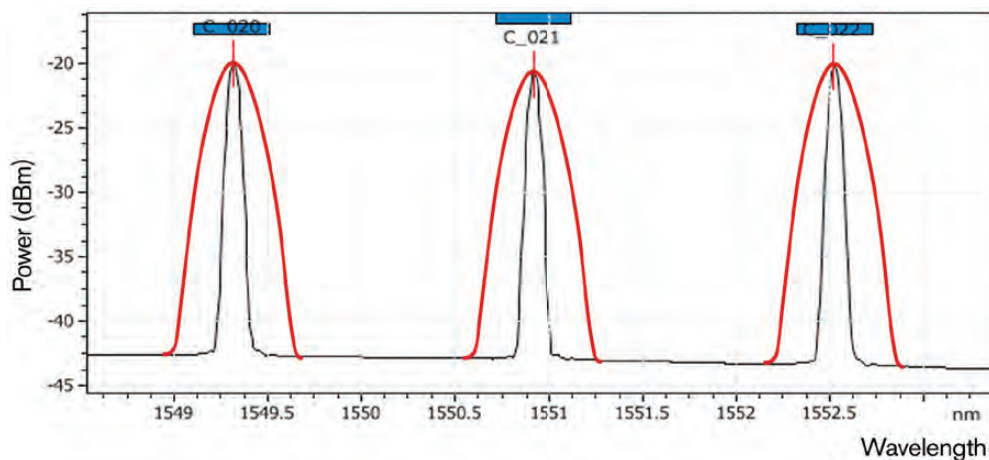

Figure 7. Use an OSA to determine if the data rate can be increased. Channels at 10 Gbit/s are shown in black, while channels at 40 Gbit/s are shown in red.
Second, an OSA enables one to ascertain whether it is possible to increase the data rate of a fiber span, since it can measure the signals' spectral width. It is well known that the spectral width of a signal increases as the data rate increases. For example, if 10 Gbit/s channels are displayed in black in figure 7, the data rate can be increased to 40 Gbit/s (shown in red) without affecting the network performance, as long as it is done within the tolerances for chromatic dispersion (CD) and polarization-mode dispersion (PMD). It is important to make sure that the larger spectral width does not make the channels overlap, as this would degrade the BER. As a consequence, a higher data rate leads to more optimal use of the fiber capacity.